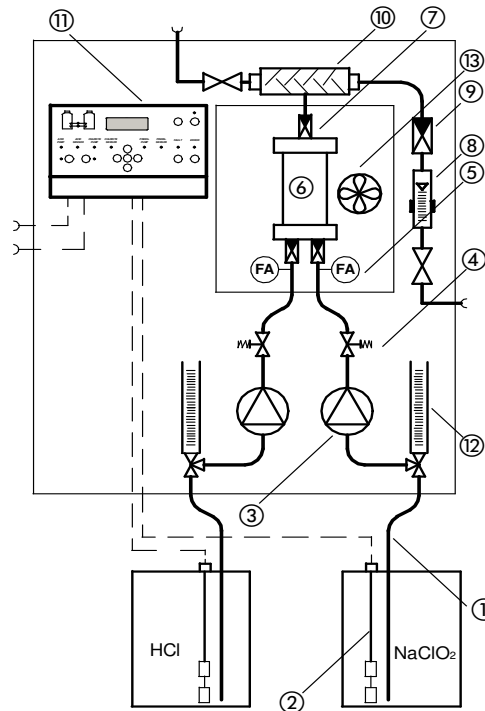

Fig. 4.3: Functional diagram
- ④ back-pressure valve
- ⑤ flow pulse monitor
- ⑥ reaktor
- ⑦ reactor output
- ⑧ flow meter
- ⑨ non-return valve
- ⑩ static mixer
- ⑪ electrical control
- ⑫ calibration cylinder
- ⑬ ventilator
Fig. 4.3 gives a schematic overview of the unit. Two dosing pumps ③ feed the starting chemicals at a volume ratio of 1:1 into the reactor ⑥ and after a dwell of approx. 10 minutes, the chlorine dioxide solution with 20 g ClO2/l is available.